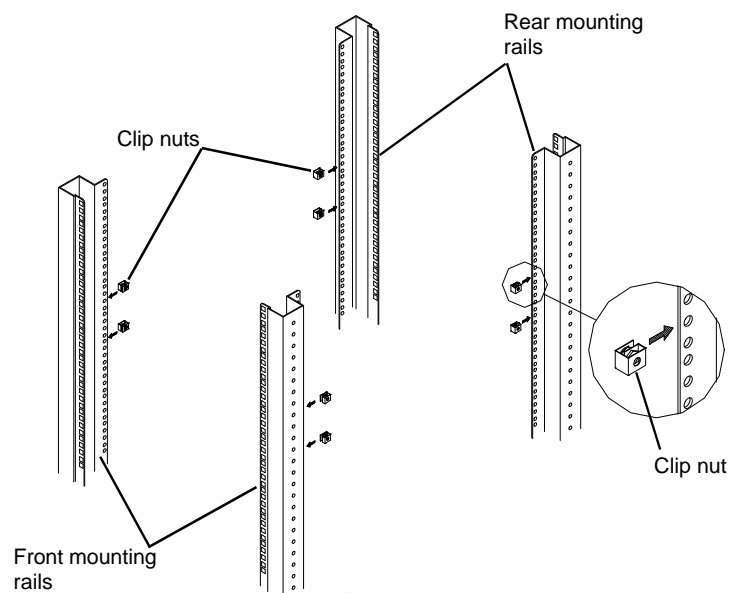

Figure 1
Clip Nuts have a front or screw side. Consider which way it should face for ease of access to the screw head during component installation. See **Figure 1**.
2. Snap a Clip Nut into a hole at the selected location on one of the Mounting Rails. See **Figure 1**.